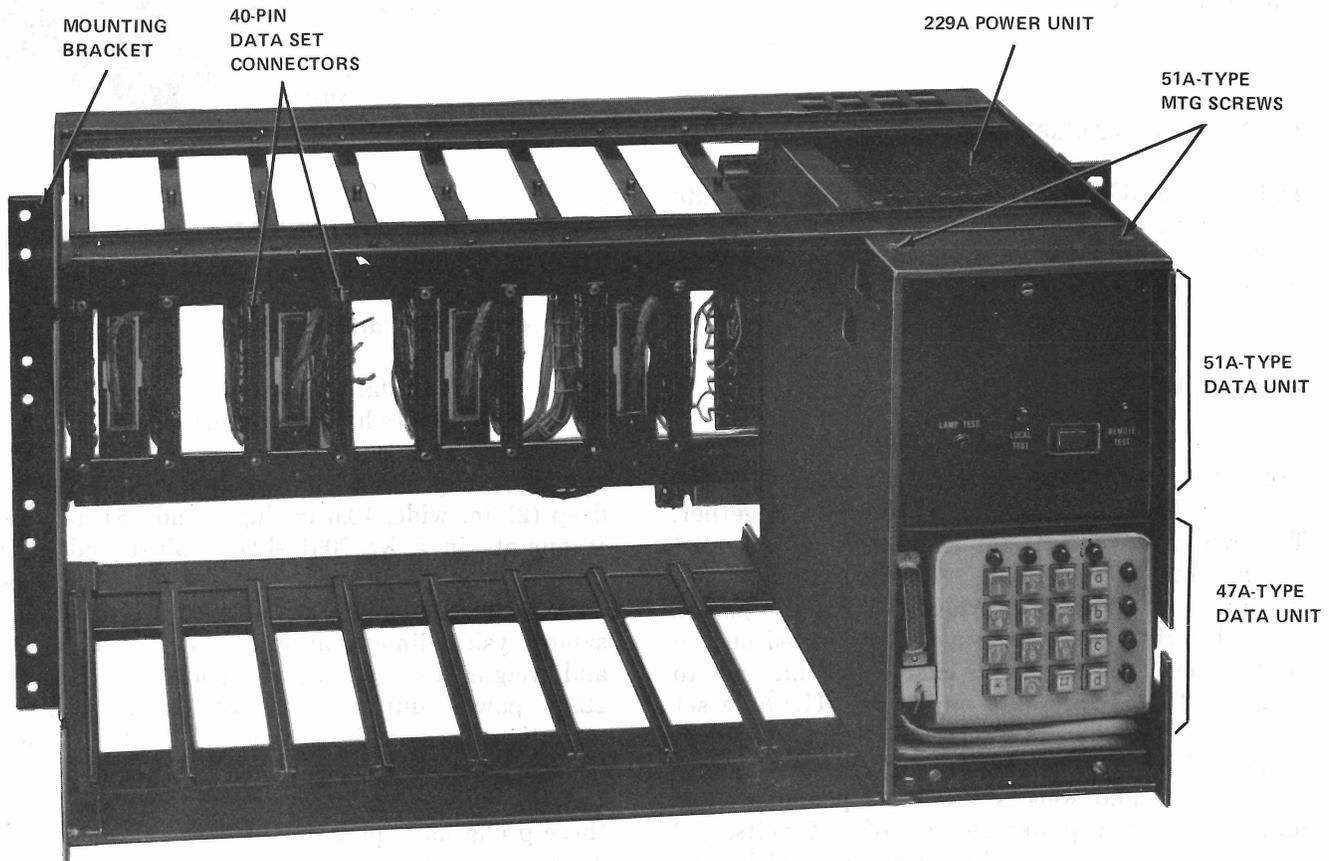
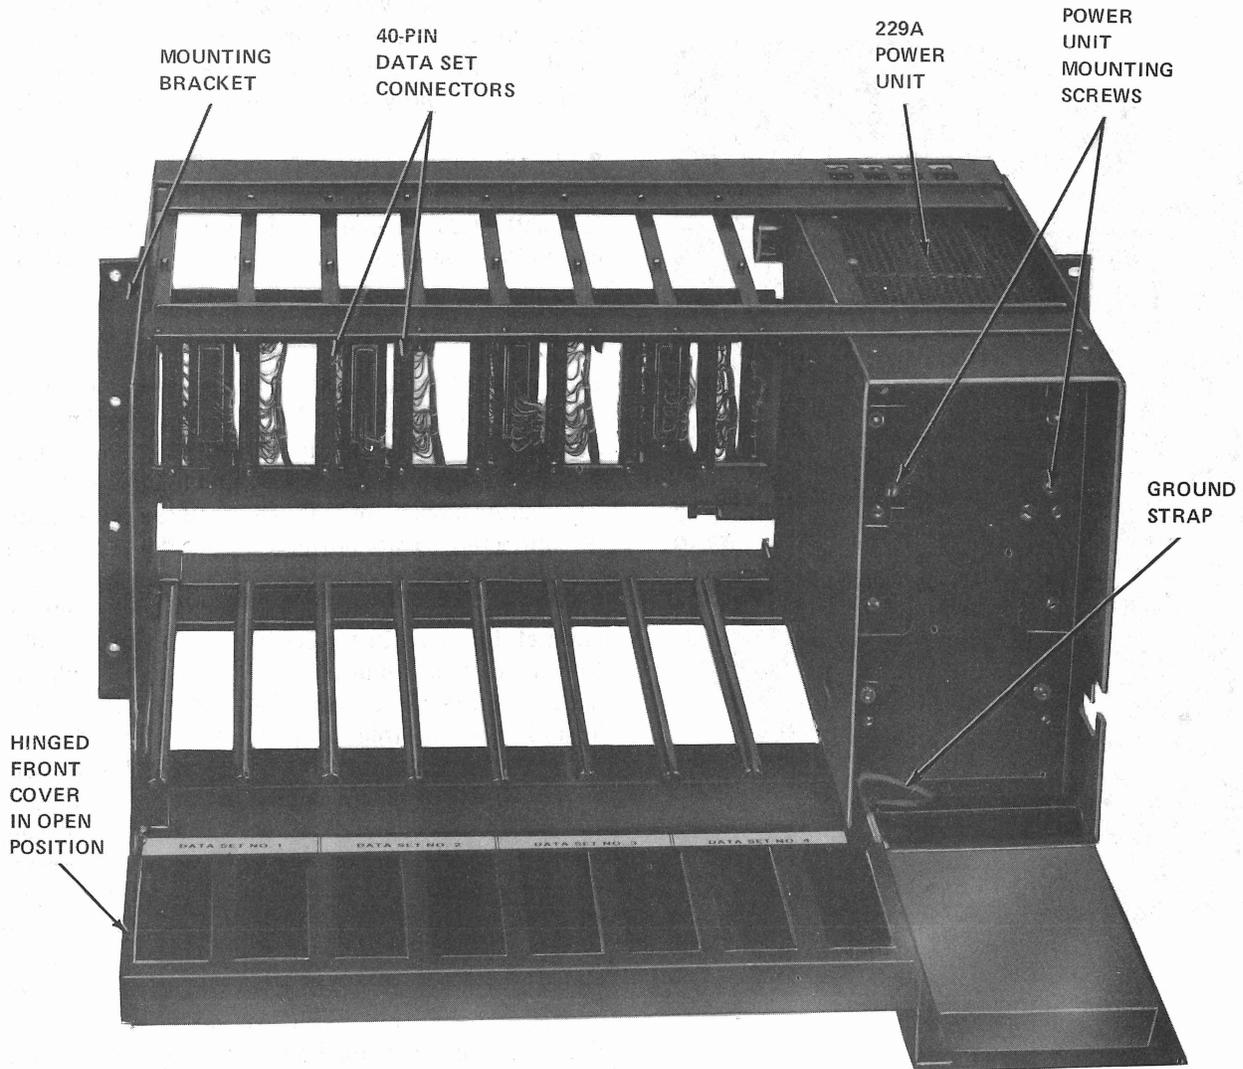

Fig. 4—57A2-Type Data Mounting With Front Cover Removed
Fig. 5—57B2-Type Data Mounting With Front Cover Open
2.03 The 57A2 data mounting (Fig. 4) contains a test unit (which is comprised of a 51A-type data unit and a 47A-type data unit) and is approximately 53 cm wide, 27 cm high, and 42 cm deep (21 in. wide, 10.6 in. high, and 16.6 in. deep). It mounts in a KS-20018-L20 cabinet and weighs about 17 kg (37 pounds) without the 229A power unit. The 57B2 data mounting (Fig. 5) has the same physical dimensions as the 57A2 data mounting and weighs about 15 kg (33 pounds) without the 229A power unit. The 57A2 and 57B2 data mountings are supplied with a KS-14532-L24 2-meter (6-foot) long power cord. The power cord has a Hubbel Twist-lock receptacle on one end and a three-prong male plug on the other end. The 57B2 does *not* contain a test unit. Data sets in the 57B2 are tested by the test unit in the 57A2 data mounting. Both data mountings are equipped with
2.08 The 51A-type data unit (Fig. 4) is 13 cm wide, 13 cm high, 7 cm deep (5.2 in. wide, 5 in. high, 2.8 in. deep), and weighs about 1 kg (2.5 pounds). This data unit contains a LOCAL
2.09 The 47A-type data unit (Fig. 4) is approximately 11 cm wide, 6 cm high, 11 cm deep (4.5 in. wide, 2.5 in. high, 4.5 in. deep), and weighs about 0.7 kg (1.5 pounds). This data unit is a modified 16-button TOUCH-TONE dial. The data unit contains LEDs across the top and down the right side of the dial.